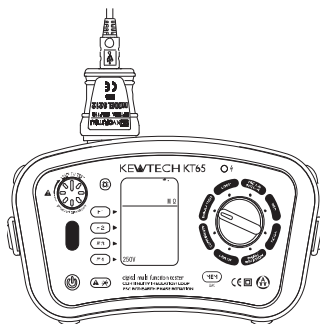

Fig. 55
- (1) Connect Model8212USB to the USB Port of a PC.(Special driver for Model8212USB should be installed. See the instruction manual for Model8212USB for further details.)
- (2) Insert Model8212USB into the KT65DL as shown in Fig 55.